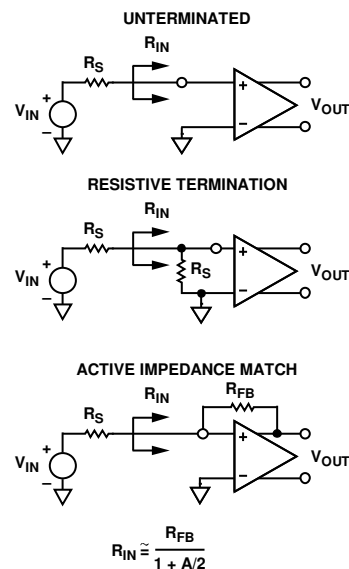
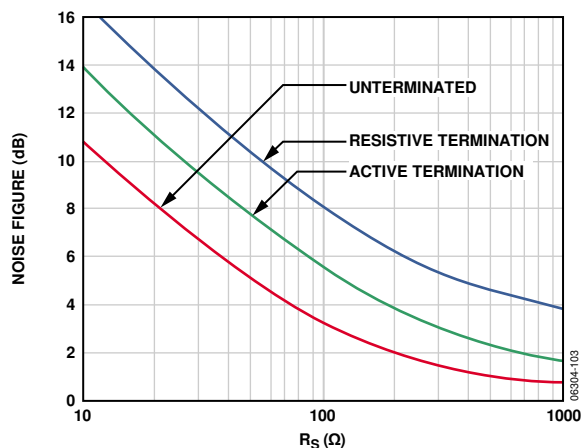
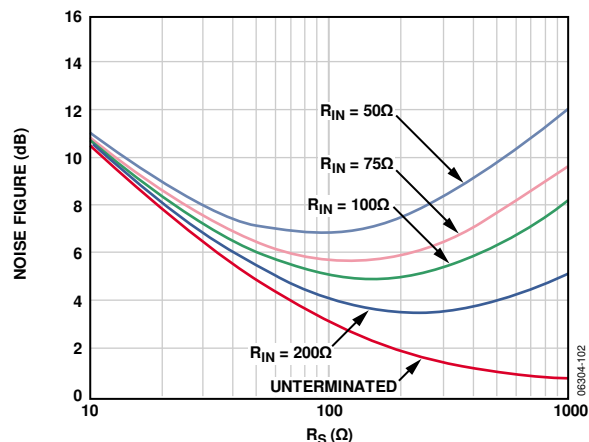

Figure 43. Input Configurations
Figure 44. Noise Figure vs. R_S for Resistive Termination, Active Termination Matched, and Unterminated Inputs, $V_{Gain} = 1\text{ V}$, 15.6 dB LNA Gain
Figure 45. Noise Figure vs. R_S for Various Fixed Values of R_{IN} , Active Termination Matched Inputs, $V_{Gain} = 1\text{ V}$, 15.6 dB LNA Gain
The short-circuit noise voltage (input-referred noise) is an important limit on system performance. The short-circuit noise voltage for the LNA is $1.2\text{ nV}/\sqrt{\text{Hz}}$ or $1.4\text{ nV}/\sqrt{\text{Hz}}$ (at 15.6 dB LNA gain), including the VGA noise. These measurements, which were taken without a feedback resistor, provide the basis for calculating the input noise and noise figure (NF) performance of the configurations shown in Figure 43. Figure 44 and Figure 45 are simulations of noise figure vs. R_S results using these configurations and an input-referred noise voltage of $4\text{ nV}/\sqrt{\text{Hz}}$ for the VGA. Underterminated ($R_{FB} = \infty$) operation exhibits the lowest equivalent input noise and noise figure. Figure 45 shows the noise figure vs. source resistance rising at low R_S —where the LNA voltage noise is large compared with the source noise—and at high R_S due to the noise contribution from R_{FB} . The lowest NF is achieved when R_S matches R_{IN} .
The primary purpose of input impedance matching is to improve the transient response of the system. With resistive termination, the input noise increases due to the thermal noise of the matching resistor and the increased contribution of the LNA's input voltage noise generator. With active impedance matching, however, the contributions of both are smaller (by a factor of $1/(1 + \text{LNA Gain})$) than they would be for resistive termination. Figure 44 shows the relative noise figure performance. In this graph, the input impedance was swept with R_S to preserve the match at each point. The noise figures for a source impedance of $50\ \Omega$ are 7.1 dB, 4.1 dB, and 2.5 dB for the resistive termination, active termination, and unterminated configurations, respectively. The noise figures for $200\ \Omega$ are 4.6 dB, 2.0 dB, and 1.0 dB, respectively.
Figure 45 shows the noise figure as it relates to R_S for various values of R_{IN} , which is helpful for design purposes.